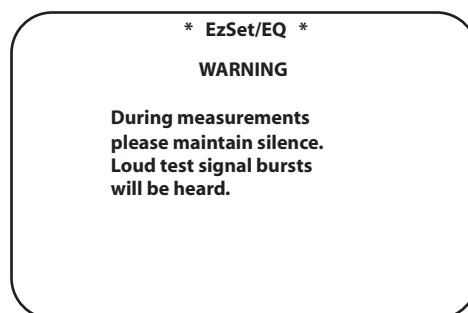

Figure 45.
**Step 6:** After entering YES to start the EzSet/EQ system, you will next see a warning message (**Figure 45**), and the screen will then change to the main EzSet/EQ menu. The WARNING screen is a reminder that in order for the system to perform accurate measurements, it is important that the listening room be as quiet as possible. After 5 seconds, the screen will change again to display the main EzSet/EQ menu.